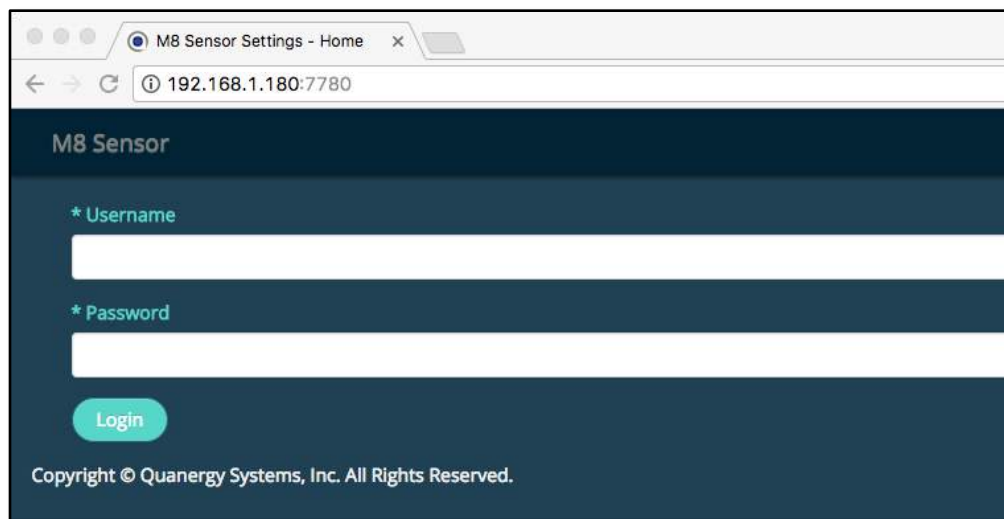

Figure 26. Web Server: M8 Sensor Tab's Login Mode
6. Press the Enter key. The M8 Sensor tab appears, as shown in Figure 26.
- Login mode (Figure 26): allows a user to enter the site as explained below.
1. When the Login fields appear on the M8 Sensor tab as shown in Figure 26, type the case-sensitive username and password. By default, that is: